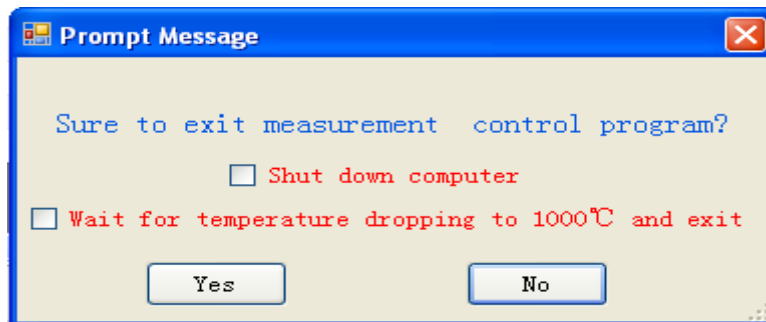

Fig. 4-3-8
**3. Exit:** click “X” at the top right corner of main interface of this program or this item, window show in Fig. 4-3-8 will popup.